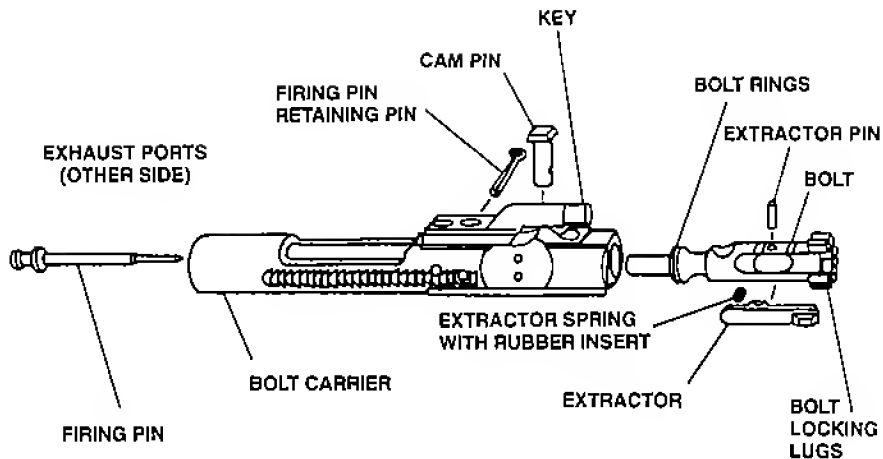

FIGURE 10 — BOLT CARRIER ASSEMBLY — SPORTER
7. Push in firing pin retaining pin from right to left of bolt carrier and remove pin by pulling it out to the left. (See Figure 10.)